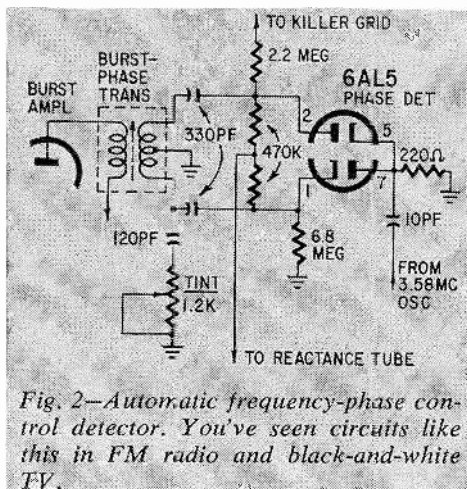

Fig. 2—Automatic frequency-phase control detector. You've seen circuits like this in FM radio and black-and-white TV.
**2. Phase detector,** sometimes called  $\epsilon$ pc and other complex names (Fig. 2). Don't let 'em fool you—it's just a plain old ratio detector, discriminator or whatever you want to call it! Compares the phase of the burst signal from the transformer with the signal being developed by the local oscillator, and develops a dc correction voltage to apply to the...